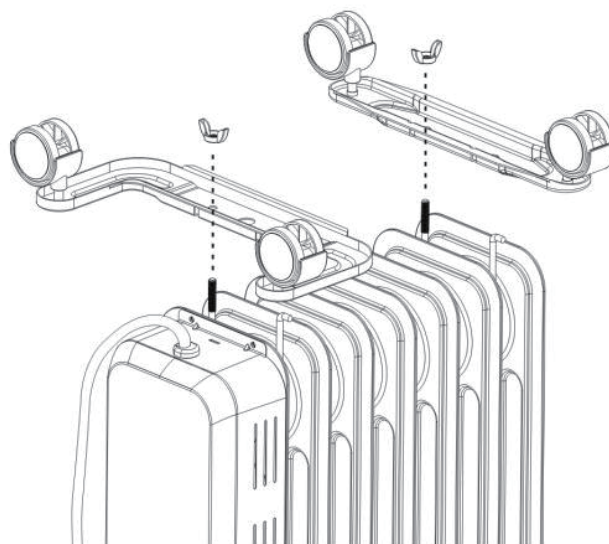

Figure 2: Castor plate installation diagramme
- (1) Place the heater upside down, then place the castors onto the bottom using the wing nuts and U-screw (fig. 2).
- (2) Place the heater upright, so it is in the correct position.